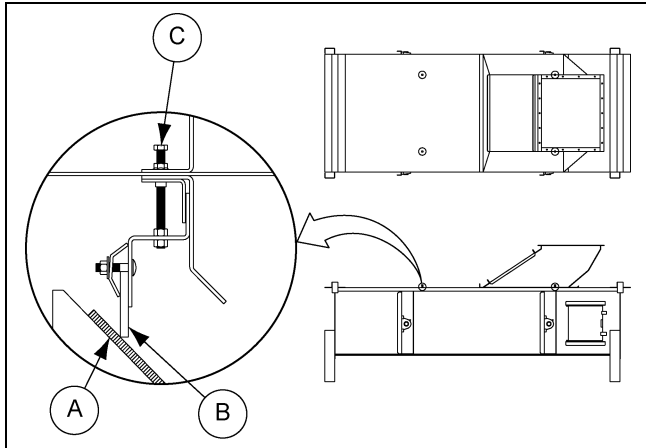

Figure 6A *Roller Flo Loader Skirt Adjustment*
5. Adjust loader skirt to just above the belt. (See Figure 6A and 6B on Page 51.)